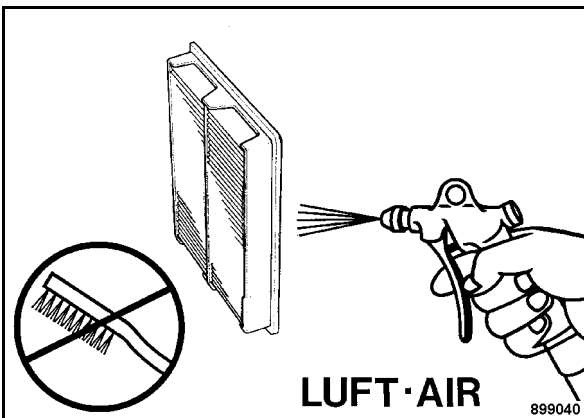

Fig. 70
- Blow the dry air filter (Fig. 70) out with clean and dry compressed air with a pressure of max. 2.1 bar.